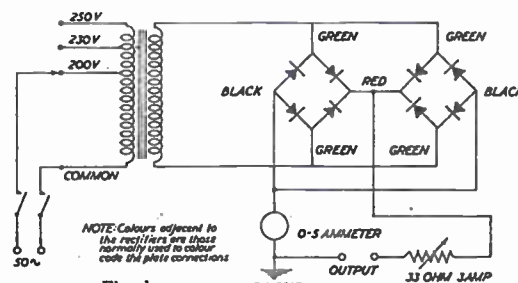

Fig. 1
**A**CIRCUIT diagram for a suitable transformer-rectifier unit forming the power supply for electro-plating, and adjustable for the range of voltages and current densities likely to be encountered with the different electrolytes employed, is given in Fig. 1. The basic components and materials required are: